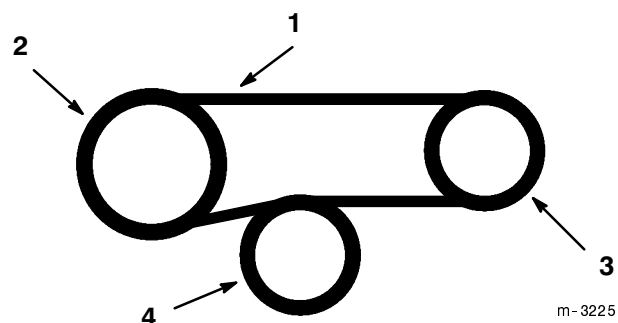

Figure 82
4. Install new PTO belts over clutch and route around gearbox pulleys and above spring loaded idler (Fig. 82).